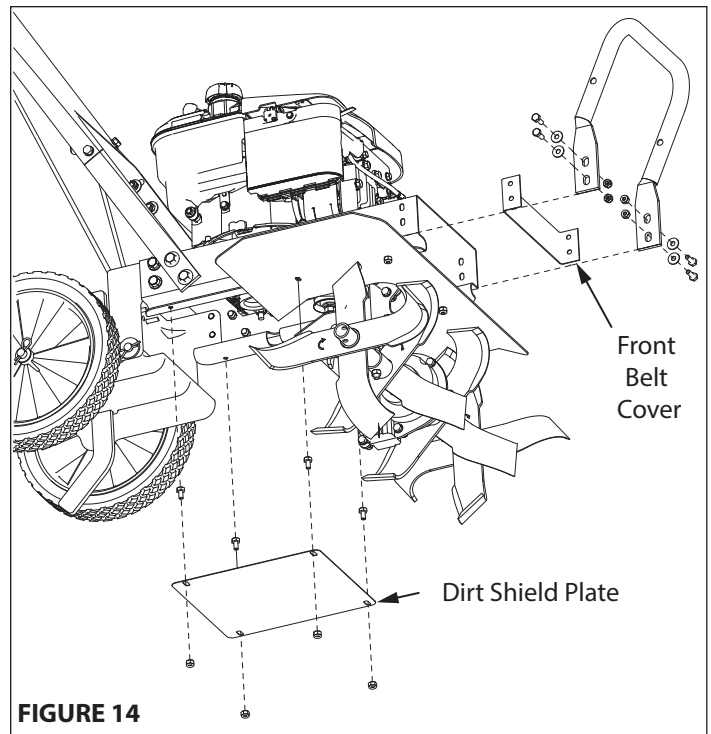

FIGURE 14
3. Remove front belt cover and dirt shield plate from tiller frame. **SEE FIGURE 14**